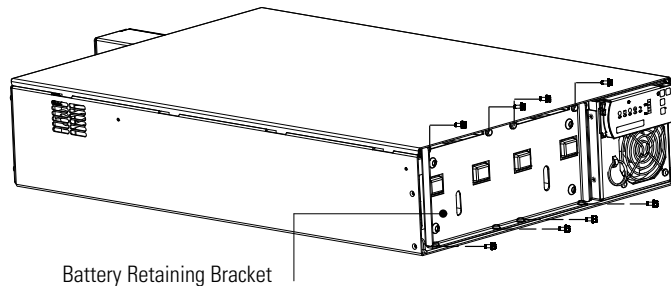

Figure 29. Removing the Battery Retaining Bracket
2. Unscrew and set aside the battery retaining bracket (see Figure 29).